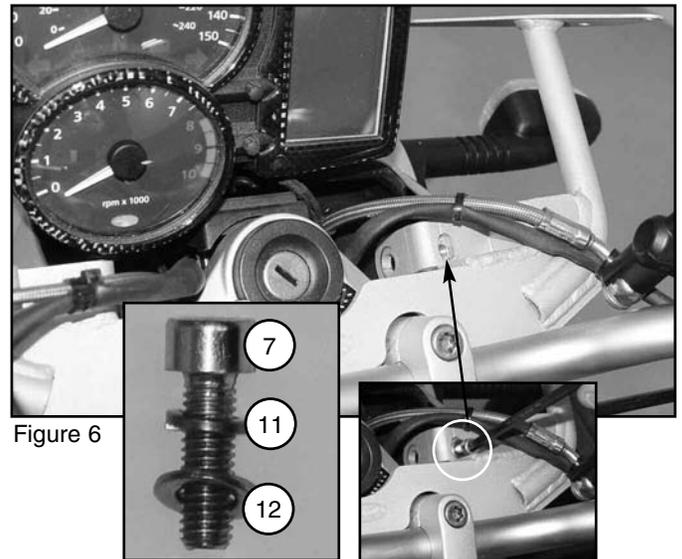

Figure 6
6. Assemble a lock washer (11) and a flat washer (12) on a M6 x 20 screw (7). Align bracket and install screw assemblies into top hole. **Do not fully tighten. (5mm Allen Wrench) Figure 6**